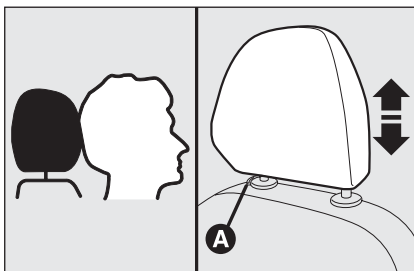

fig. 30
- to lower: press button **A**-fig. 30 and lower the head restraint.